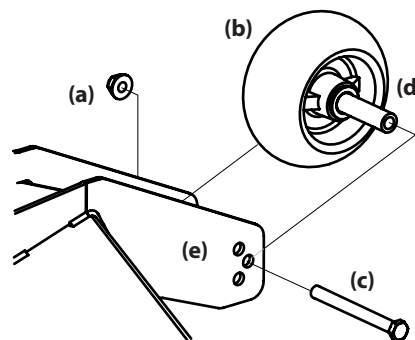

Figure 27
2. Remove the lock nut (a) securing one of the front gauge wheel (b) to the deck. Remove the front gauge wheel (b), hex screw (c) and spacer (d). See Figure 27.